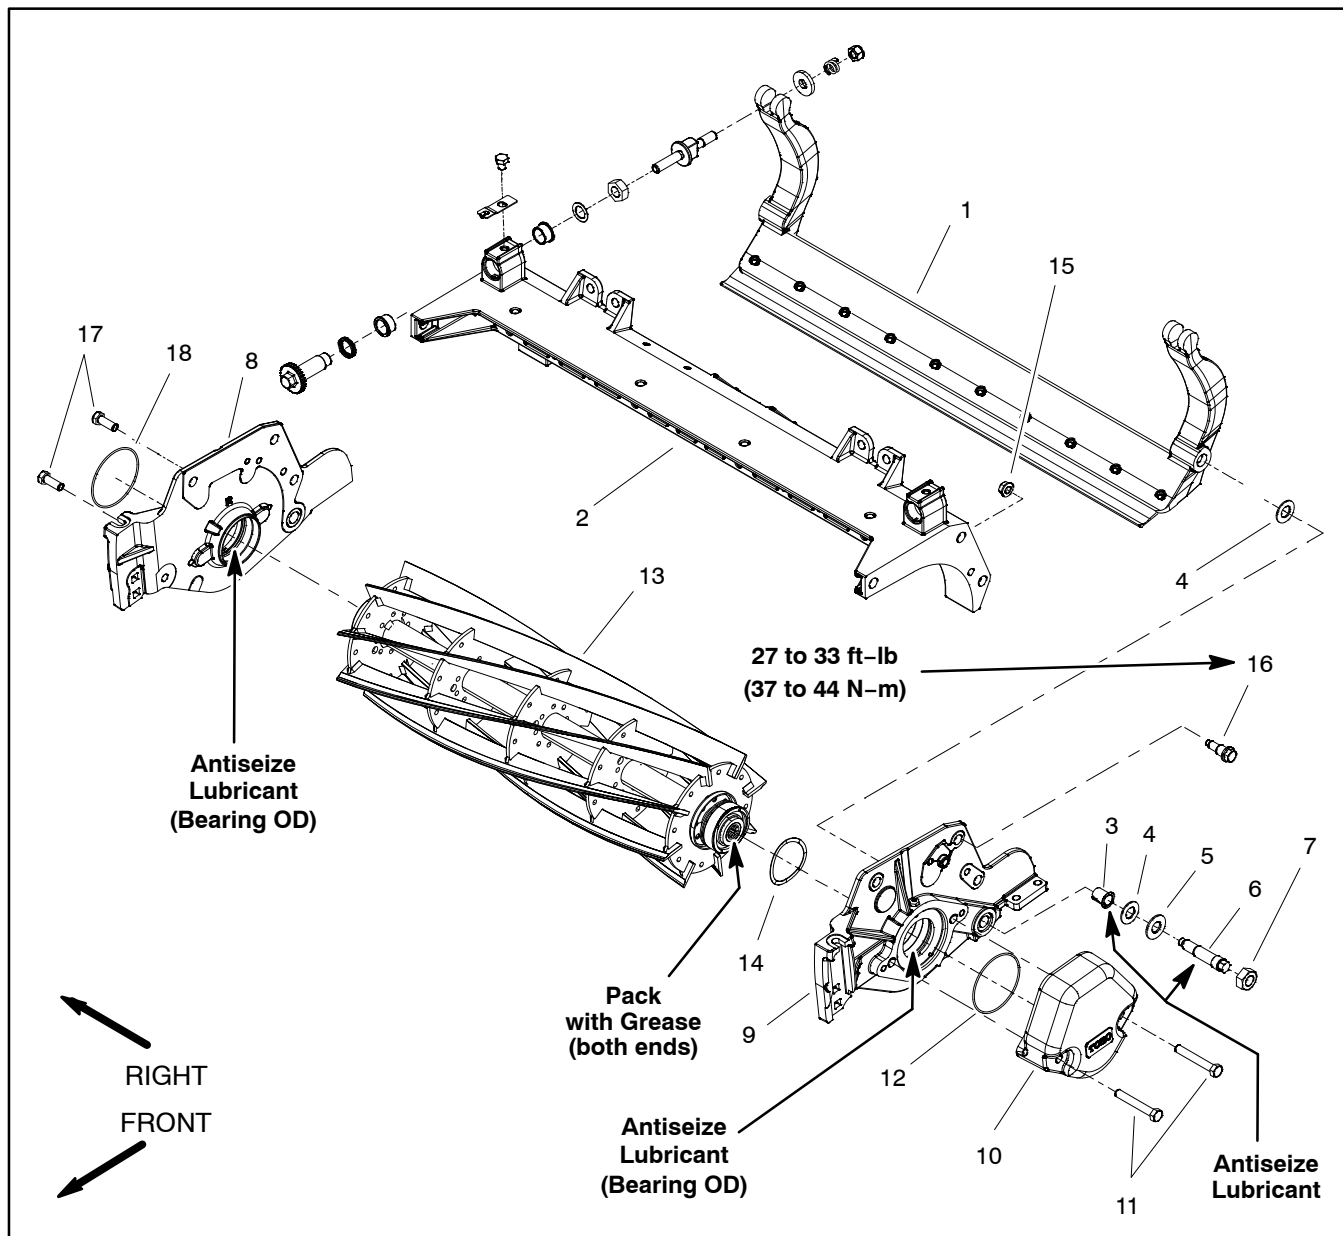

Figure 37
5. Make sure that flat wire spring (item 14 in Fig. 37) is installed into LH side plate.